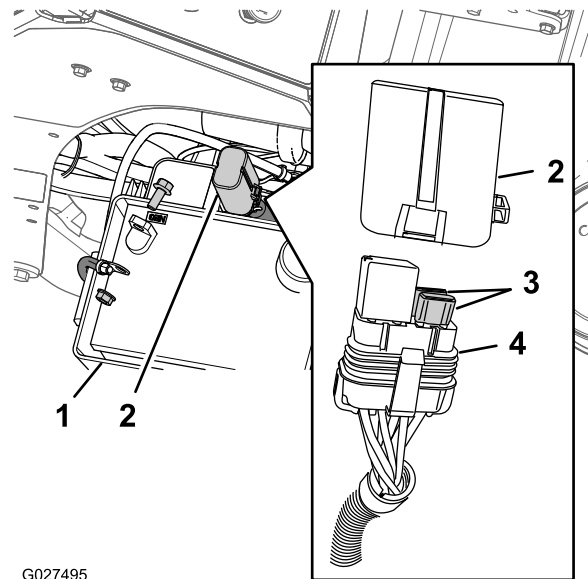

Figure 75
2. Pushing the tab on the fuse/relay holder and separating the cover from the holder (Figure 75).
3. Pull the fuse from the socket of the fuse/relay holder (Figure 75).
4. Install a fuse of the same type and amperes into the socket of the fuse/relay holder (Figure 75).
5. Install the cover on to the fuse/relay holder until it locks into place (Figure 75).